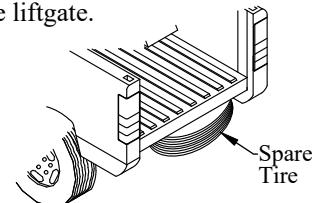

Figure 7: Spare tire protruding past truck box.
1. Lower the spare tire (Figure 7).